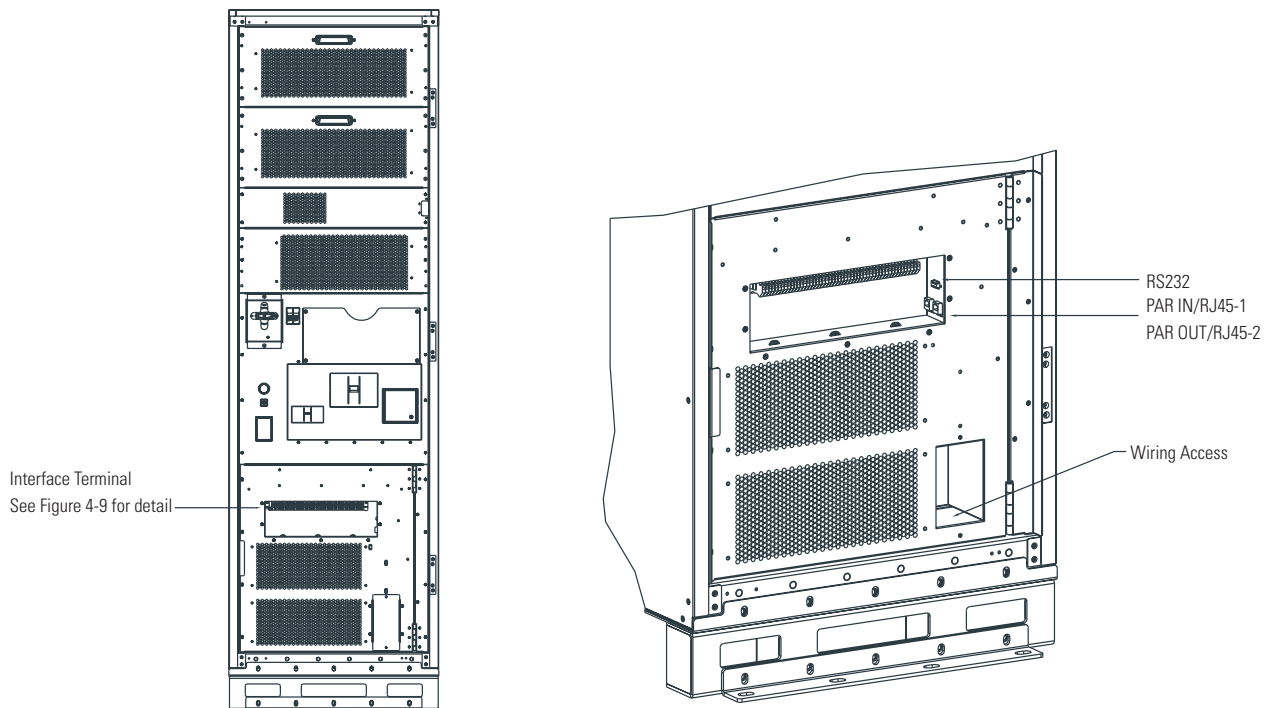
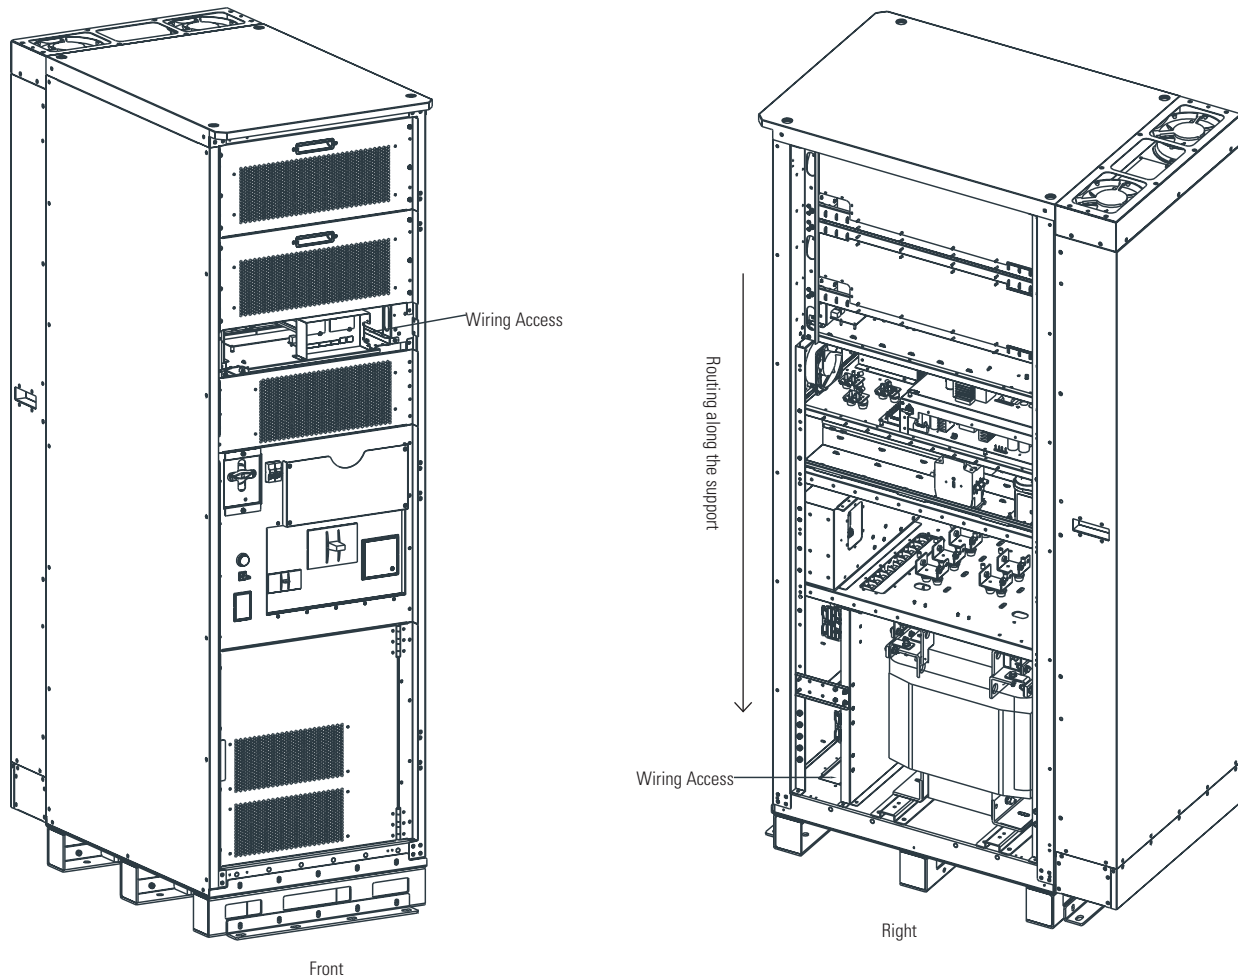

Figure 4-8. Interface Terminal Locations
Figure 4-13. Interface Wiring Access (without transfer)
2. To locate the appropriate terminals and review the wiring and termination requirements, see paragraph 3.2.3, Table 4-1, Figure 4-8 and Figure 4-12.
3. Interface cables can enter the UPS via bottom hole see Figure 4-8 and Figure 4-13.
3. Remove the front cover plate that covered the parallel communication ports and the right panel, then working on the communication circuit and routing as figure 4-13.
NOTE 4 This procedure is intended for installing the Eaton-supplied REPO switch. If installing another manufacturer's switch, use this procedure, and Figure 4-13 and Figure 4-14 as a guide.
3. To locate the appropriate terminals and review the wiring and termination requirements, see paragraph 3.2.3, Table 4-3, Figure 4-6, Figure 4-8, and Figure 4-12.
4. Normally-Open REPO Switch Wiring see Table 4-4 and Figure 4-13, Normally-Closed REPO Switch Wiring see Table 4-5 and Figure 4-14 .